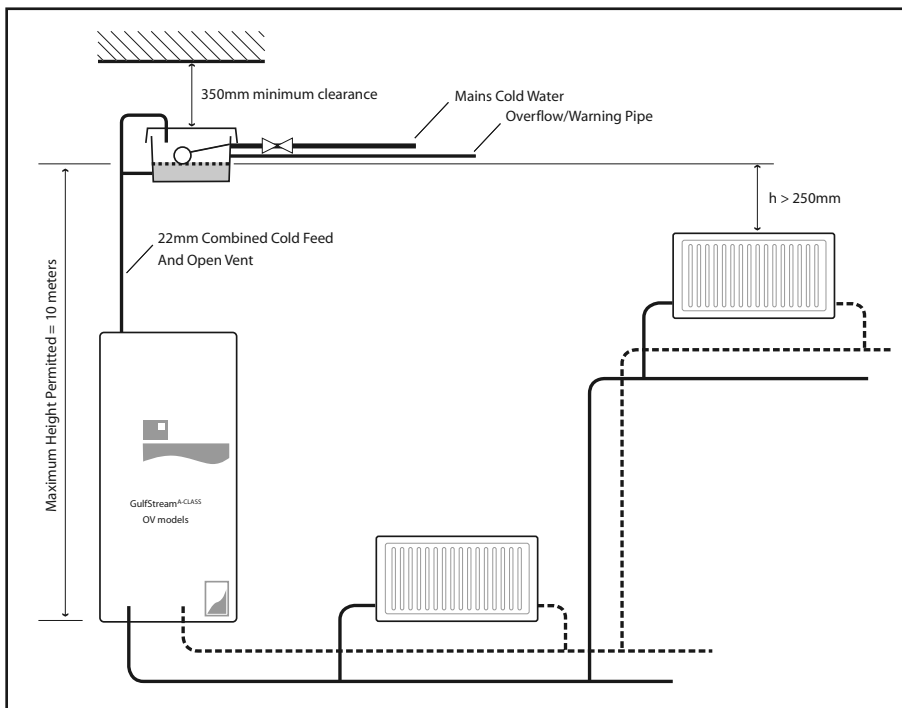

Figure 3.5 Schematic diagram of the open vented heating system
(a) **Open vented ('-OV') models** are only suitable for an open vented heating system shown schematically in figure 3.5.
**Cold feed and open vent:** This appliance uses combined cold feed and open vent. This should be run in 22mm copper pipe and connected to the Feed and Expansion cistern as shown in figure 3.5.